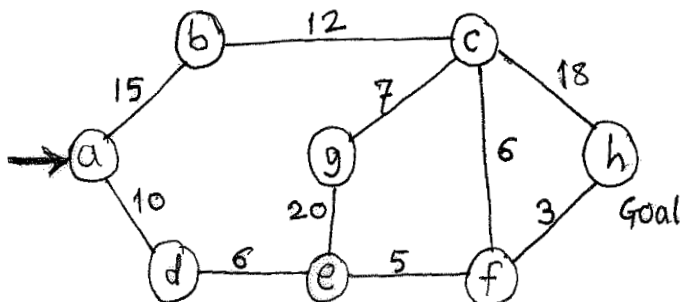

Figure 2
- 12. a) Represent the following graph using adjacency list and find the shortest path using Dijkstra's algorithm. Write all the sequence of steps used in the algorithm. (see figure 2) 8